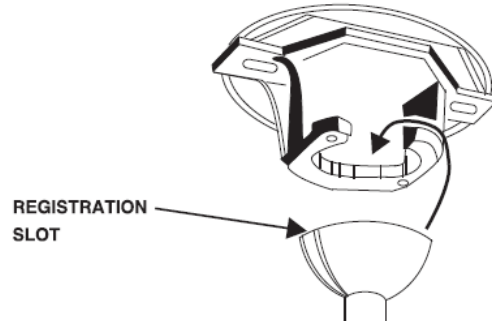

Fig. 4
- Lift the fan assembly onto the mounting bracket. Ensure the registration slot of the hanger ball is positioned on the stopper of the mounting bracket to prevent the fan from rotating when in operation. (Fig.4)